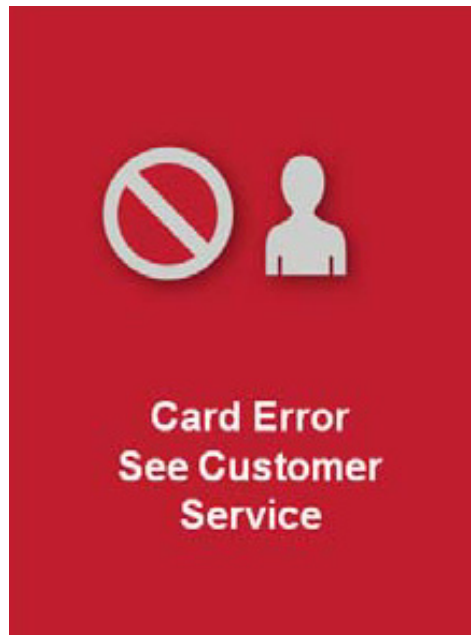

Figure 4-14 Card Error
4.2.2 Card Error When a cardholder taps an invalid WMATA Farecard, the screen in **Figure 4-14** appears.